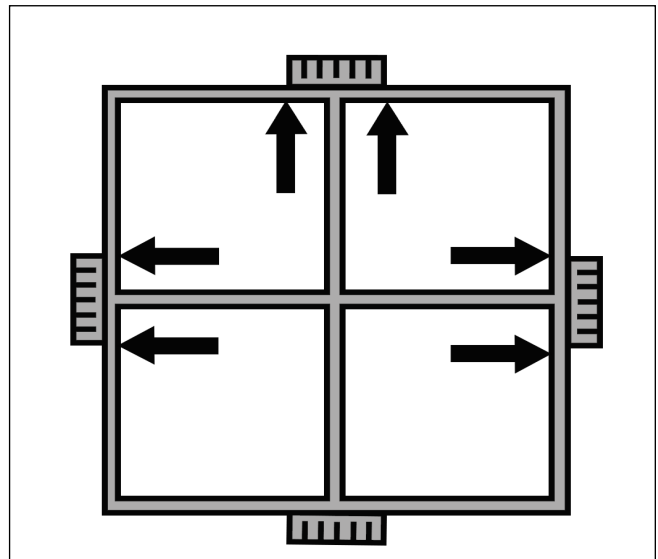

Figure 54
1. Additional screws are needed at all head jamb and jamb gussets, full or split. DO NOT DRILL THROUGH THE SILL. Remove the covers needed to access the base frame next to any head jamb or jamb gusset. For factory assembled mulls with Direct Glaze Units, the interior mull cover may need to be removed before the screw covers. See Figure 54